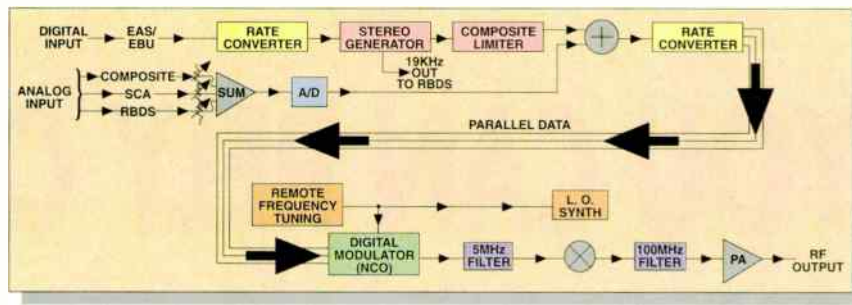

Figure 1. A basic block diagram of a typical digital FM exciter.
**Figure 1.** A comprehensive control and routing system will include all of the elements in this diagram. (TP = twisted pair (shielded); UTP = unshielded twisted pair)